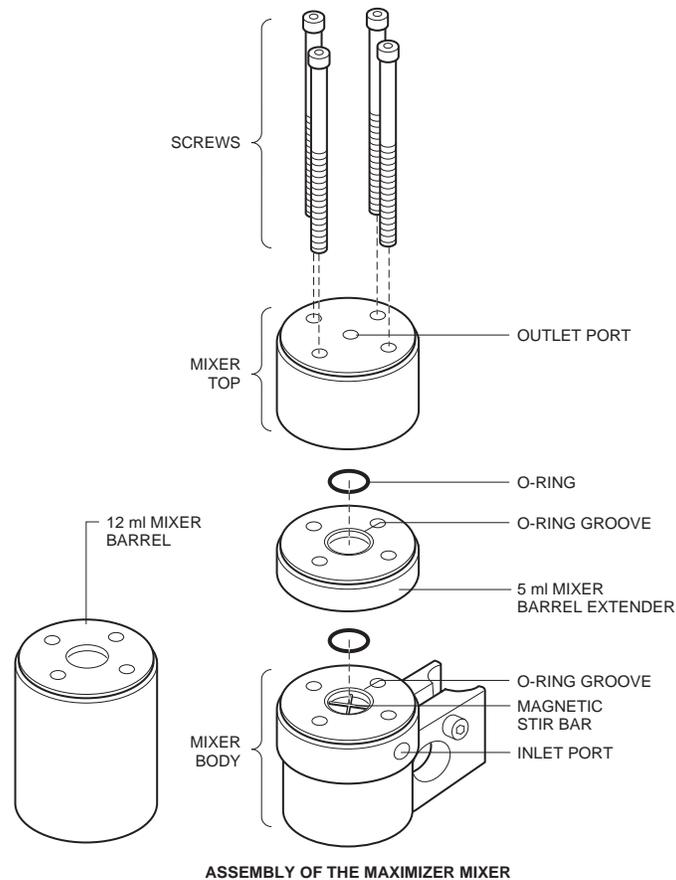

Figure 2. Mixer Assembly
3. Refer to Figure 2 for re-assembling the mixer. Make sure that the magnetic stir bar lies flat and that the o-ring groove in either the mixer body or the mixer extender barrel faces up.